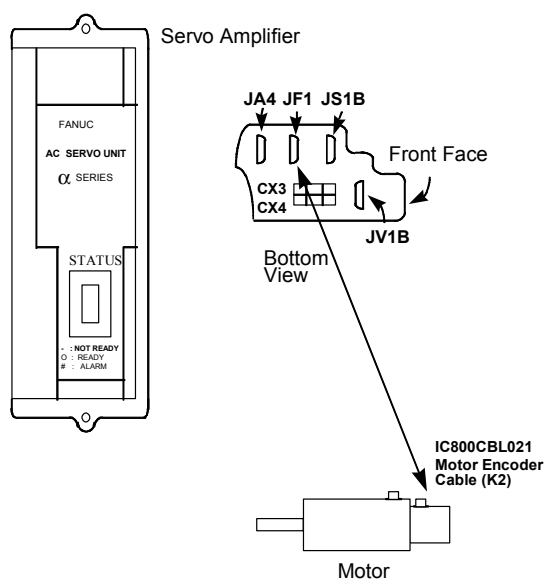

Figure 2-6. Connecting the α Series Motor Encoder
- B. Plug the opposite end into the connection labeled **JF1** on the bottom of the α Series servo amplifier (see Figure 2-6).
An AC line filter will reduce the effect of harmonic noise to the power supply; its use is recommended. Two or more amplifiers may be connected to one AC line filter if its power capacity has not been exceeded. Figure 2-6 shows how to connect the amplifier to the line filter.